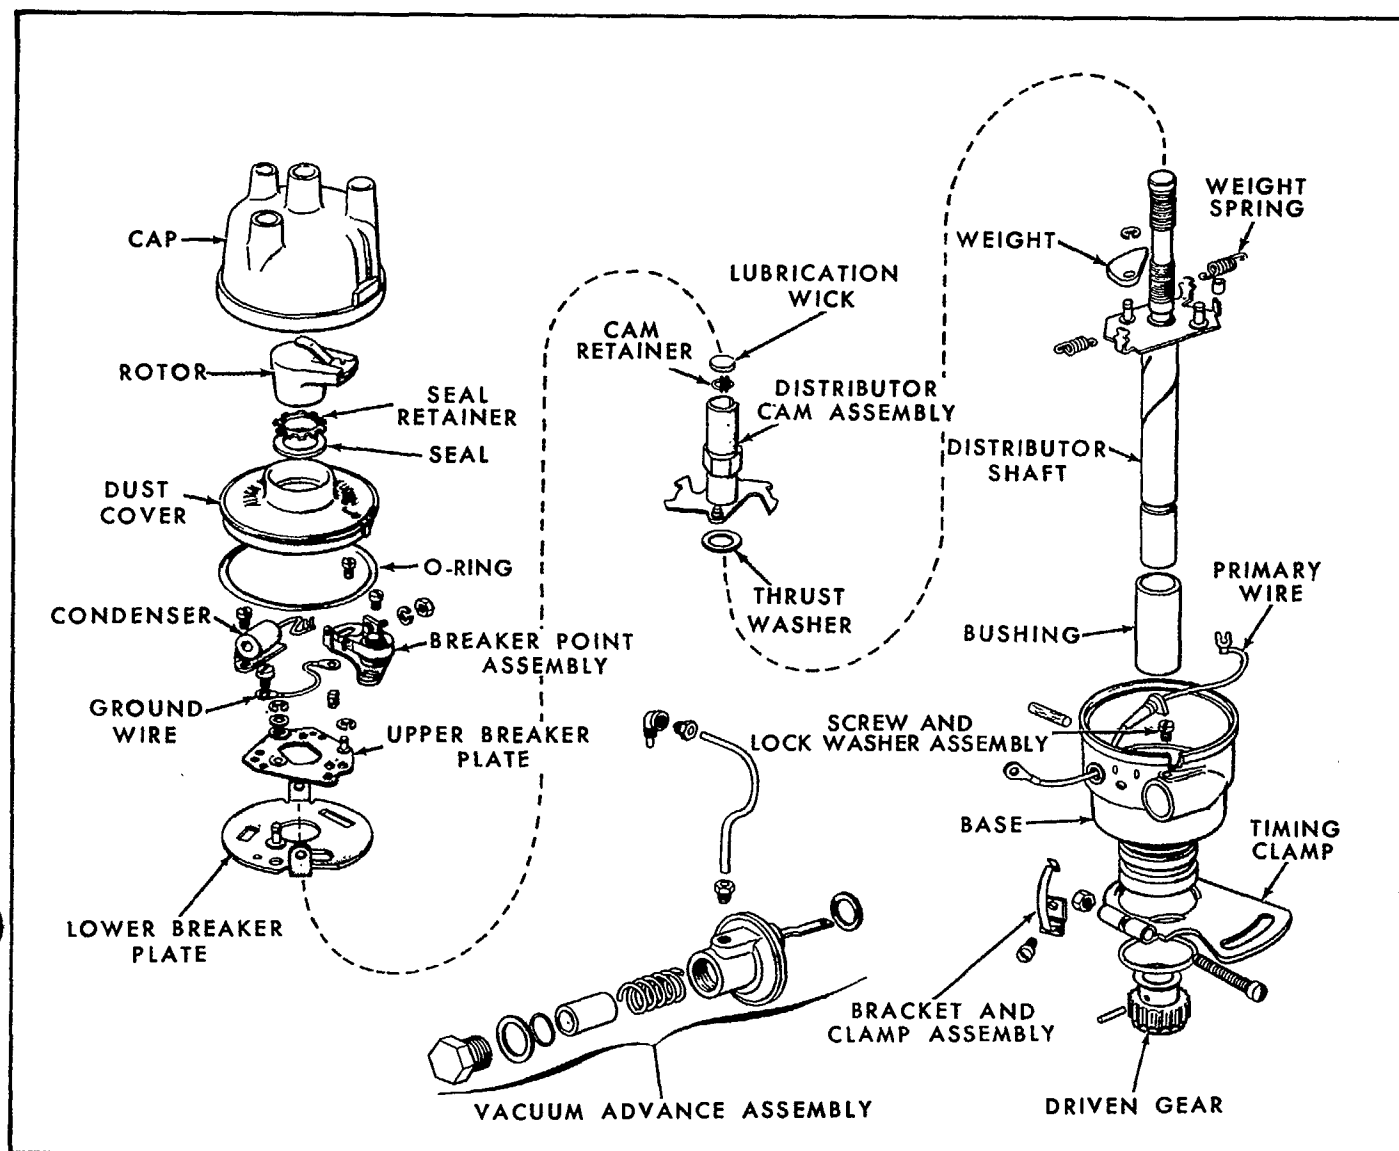

Figure 65
Refer to Figure 65 to identify the distributor components.
12. Remove the distributor shaft thrust washer, Figure 65.
Refer to Figure 65 for identification of parts during assembly.